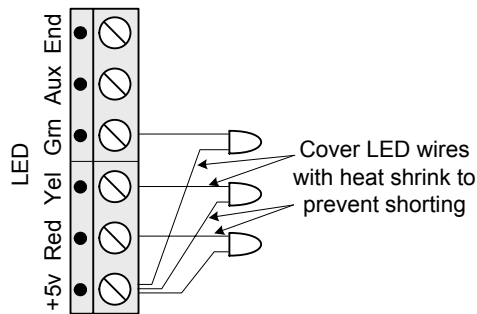

Figure 5.1: Connecting LEDs for Self-Test Mode
3. To test the reader LEDs, connect three LEDs to the Reader LED port as shown in Figure 5.1. Connect the anode (long lead) of each LED to Pin 1 (+5v). Cover the LED wires with heat shrink to prevent short circuits.